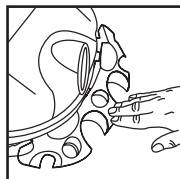

FIGURE 10
10. Press down on center of tool holder until tab latches on bottom of lid. **FIGURE 10.**